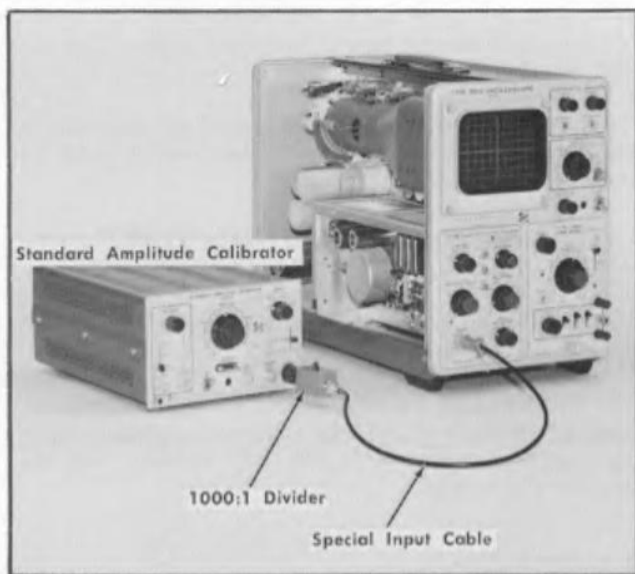

Fig. 6-30. Initial test equipment for step 20.
- Test equipment setup is shown in Fig. 6-30.